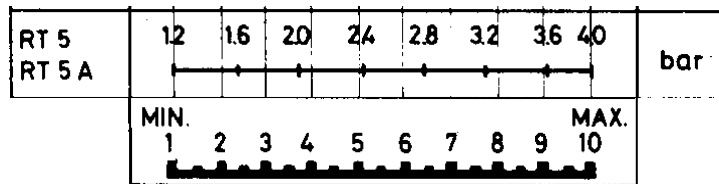

Fig. 4
- a) Turn the knob (1) until the scale indicator (2) reaches the pressure at which the burner shall restart.
- b) Remove the cover of the pressure switch and position the drum (3) at the value selected for the pressure differential (stopping the burner) as to the diagram Fig. 4.